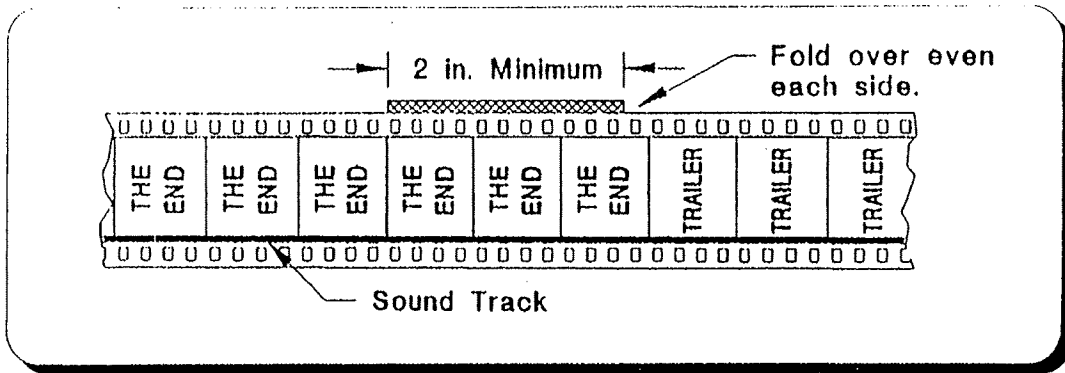

Figure 1. End of Show Cue
2.1.3 Add an "**INBOARD**" (opposite sound track) cue tape to the film at the location desired to end the show. See Figure 1.